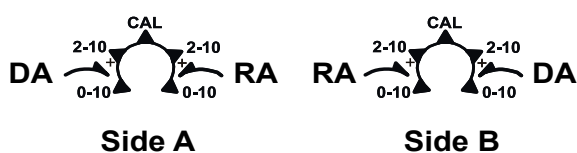

Figure 1: Mode Selection
To change to Reverse Acting (RA) mode, move the mode selection switch from DA to RA (see figure 1). The input signal range is selectable between DC 0 to 10 V or DC 2 to 10 V.